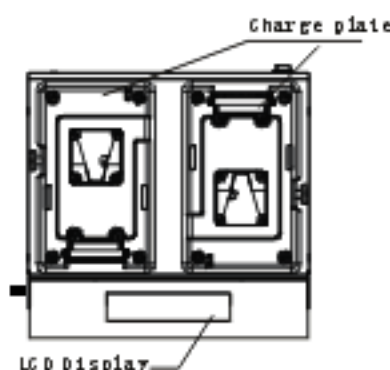

Fig. 2
- Turn the rear main power switch to ON, front panel LCD display will light. (Fig. 2)